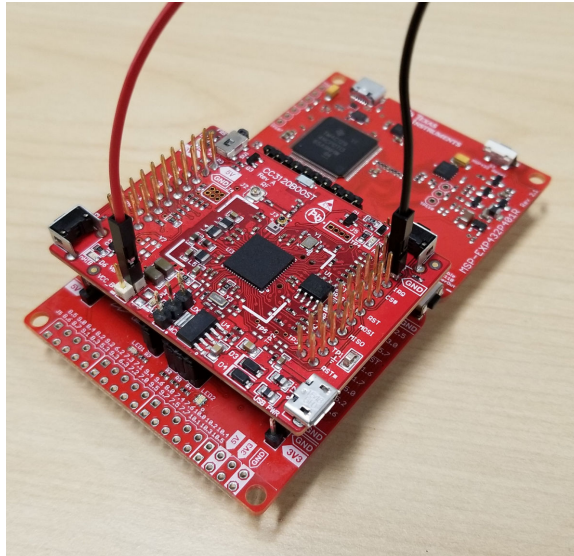

**Figure 2-16. EnergyTrace™ Settings**
- Open CCS and go to Window → Preferences → Code Composer Studio → Advanced Tools → EnergyTrace Technology. Under Target Connection, configure Connection to be XDS110 and Voltage to 3300 mV. Additionally, check the box next to Raw data to CSV file. Figure 2-16 shows the specified fields.